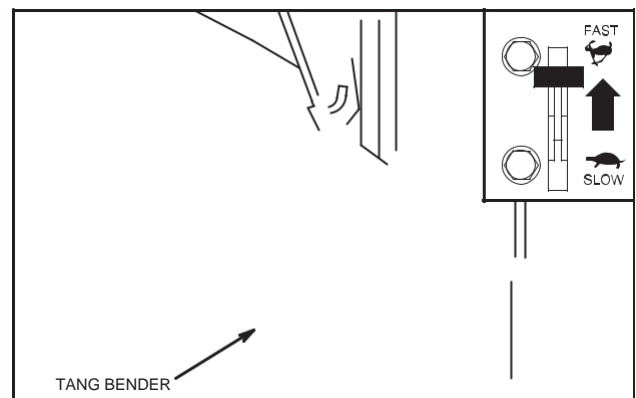

Fig. 29 – Adjusting Top No Load Speed
- a. Bend tang to obtain correct RPM, Fig. 29.